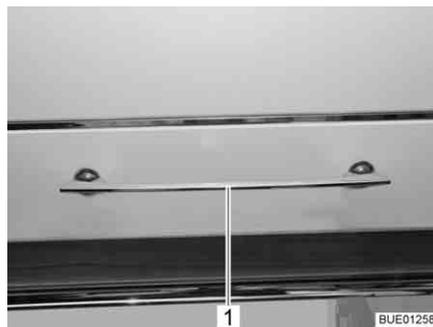

Fig. 71 Furniture flap with release handle
- Press the release handle (Fig. 71,1) down and keep it pressed.